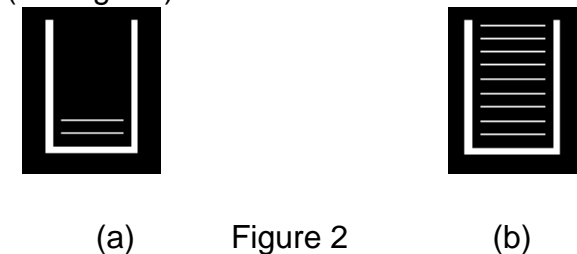

Figure 2
b) Occlusion pressure level: The pressure inside the tube is indicated in display panel as in Figure 2. And the white lines stand for the level of the pressure inside the infusion line. The larger the number of white lines, the more the infusion pressure (see fig 2.b) exists.